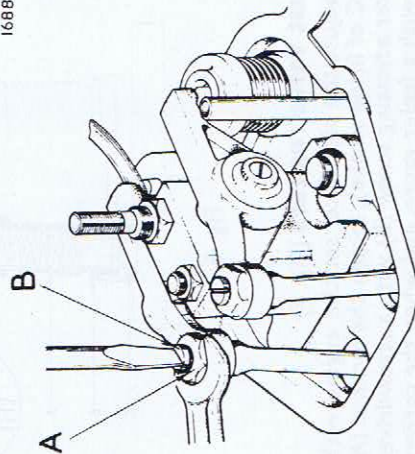

Fig. 7
30. To adjust valve rockers (Fig. 7)
- (d) To adjust the clearance, set the engine with valves closed (TDC of firing stroke), loosen the locknut (A) and turn the rocker adjusting screw (B) with a screwdriver. Measure the gap with a feeler gauge, and when the correct setting is obtained (see Technical Data) retighten the locknut. Recheck the gap.